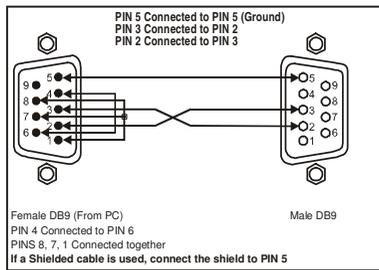

Figure 7: Connecting a PC without using a Null-modem Adapter
- Connect the RS-232 IN DB9 port on your PC to the RS-232 DB9 rear panel port on the **VP-81xl**, **VP-161xl**, or **VP-321xl** unit, as Figure 7 illustrates